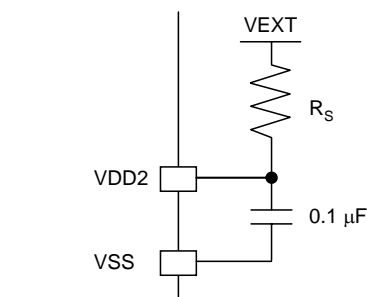

Fig. 1
- When the external supply voltage $V_{EXT} = 4.5\text{ V}$ to 5.5 V , connect a 5.1-kΩ resistor R_S between V_{EXT} and V_{DD2} as shown in Fig. 1.